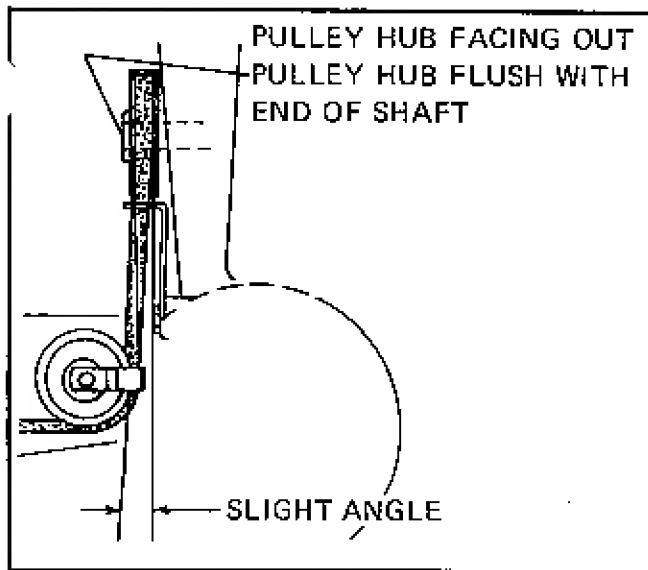

Figure 2.
3. Apply a light coat of grease to front P.T.O. shaft. Remove all burrs and rough edges from key way and bore of engine pulley, mount the engine pulley to the P.T.O. shaft. Insert the 3/8"-24 set-screw in the engine pulley and position pulley so hub is flush with end of P.T.O. shaft. See Figure 2.